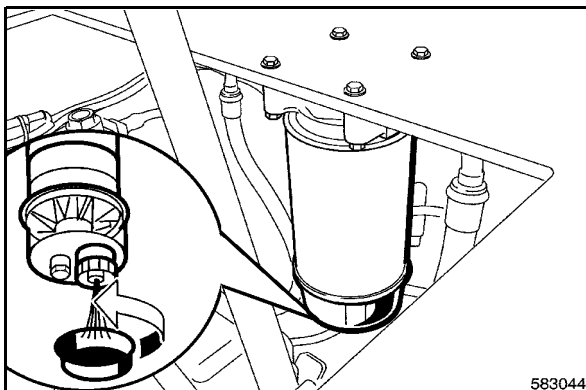

Fig. 126
- Slacken the drain plug (Fig. 126) for a few turns and catch running out fuel / water.